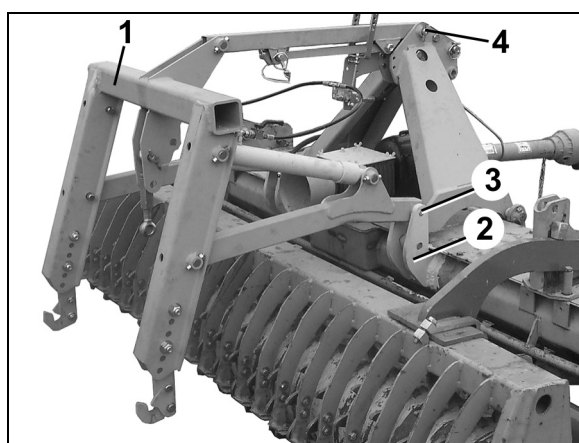

Fig. 45
2. Attach the lifting frame (Fig. 45/1) to a hoist
3. Bolt the lifting frame on to the plates (Fig. 45/2) of the soil tillage implement by using 5 hex. bolts.
4. Affix the top link (Fig. 45/3) on the upper three point linkage of the soil tillage implement by using a pin and secure it using a lynch pin.
6. Connect the preassembled hydraulic hose (Fig. 45/4) with both hydraulic rams (Fig. 45/5) and affix on the soil tillage implement with cable binders.
7. Connect the coupling plug (Fig. 45/6) of the tractor to a single acting control spool valve. Pressurise the lifting frame in the tractor cab and check the hydraulic system for leaks. Eliminate any existing leaks.